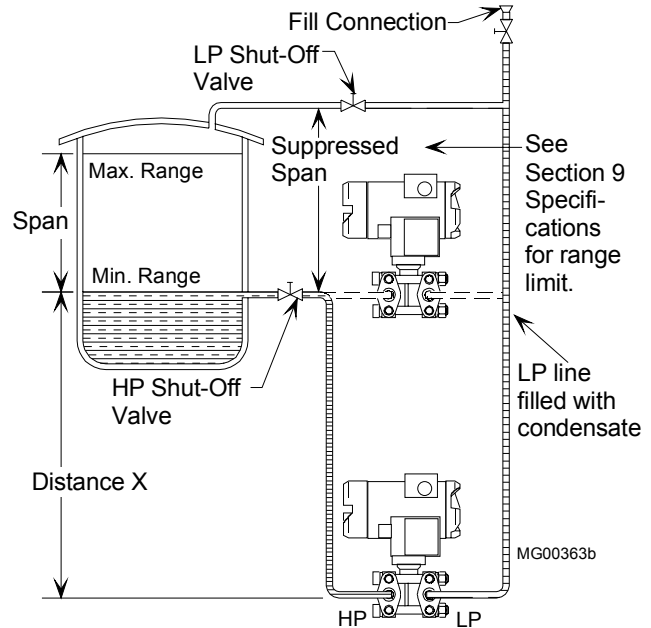

FIGURE C-2 Suppressed Span
- Suppressed Span - The LRV of the transmitter needs to be configured below "0." See Figure C-2.